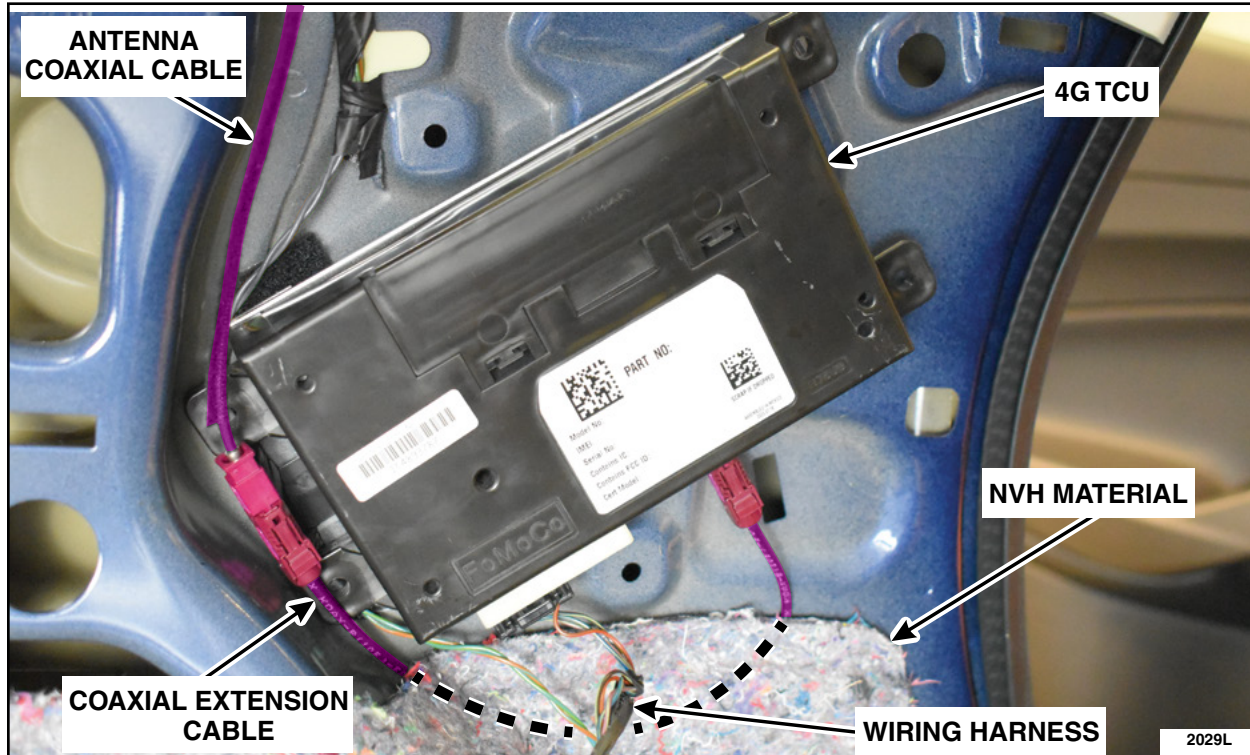

FIGURE 11
13. Connect and route the coax extension cable. See Figure 11.